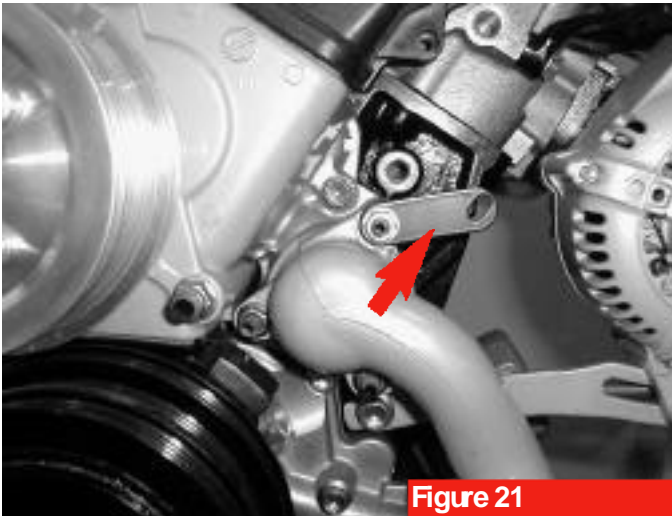

Figure 21
2. Unclip the wire loom from the factory bracket and install the supplied wire loom relocation bracket (see arrow, figure 21). Use the existing nut on the water pump housing's upper stud. Torque to factory specifications and clip the wire loom to the back of the supplied bracket.